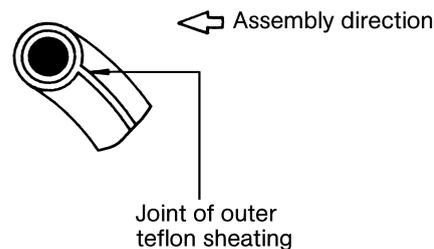

Figure 5: Joint of outer teflon sheathing faces in the correct direction for assembly.
**Note:** Parts that slide on top of one another must always be exchanged in pairs. When using double PTFE sheathed O-rings, please ensure that the joint of the outer sheathing faces in the correct direction for assembly, as otherwise the sheathing may open or be pulled off (see Figure 5).